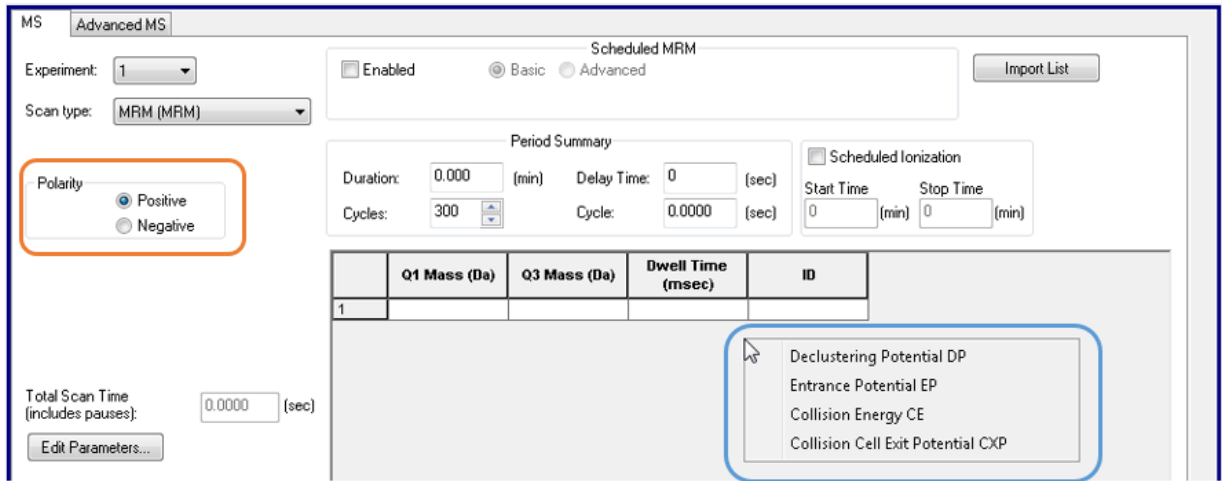

Figure B-2: Defining the Positive Polarity Information for Experiment 1.
4. Select positive polarity for the first experiment as indicated in the orange box in **Figure B-2**. Move the mouse to where the blue box is indicated and right click to add the Collision Energy (CE) to the MRM table.
5. In the left-hand navigation bar of the method, right click on *Period* to add new experiment. Select negative polarity for the second experiment as indicated in the red box in **Figure B-2**.